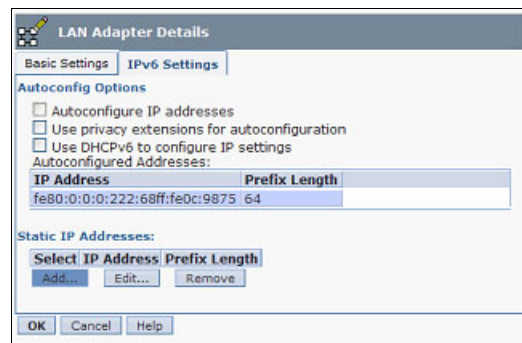

Figure 8-8 Web UI IPv6 settings window
6. Click **Add** to add a static IP address to this adapter. Figure 8-8 shows the LAN Adapter Details window where you can configure the IPv6 values.